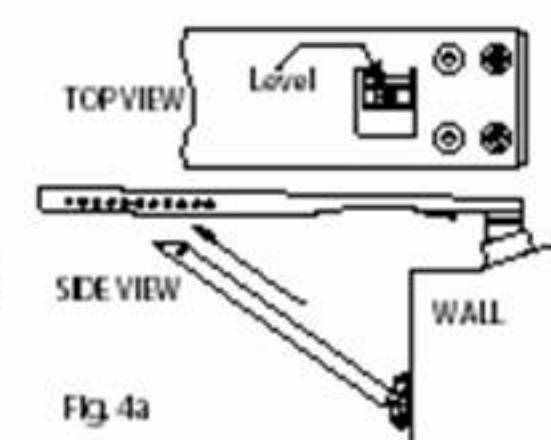
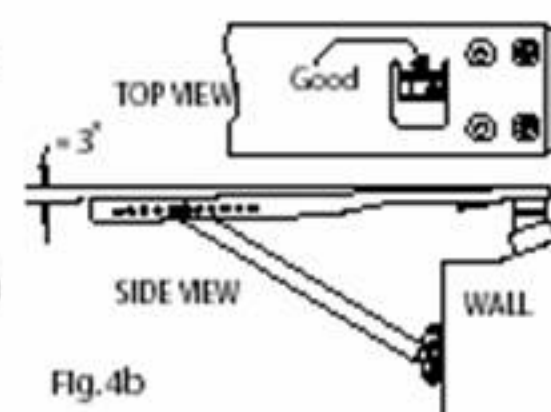
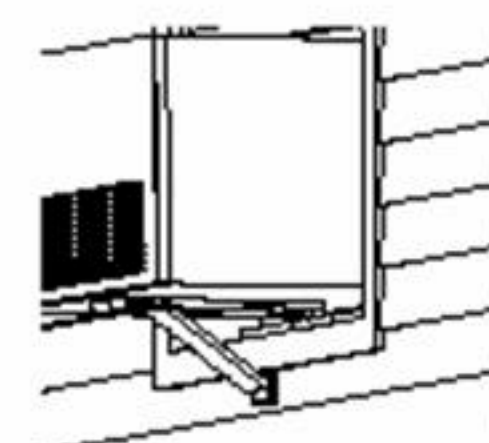

Fig. 4a
Fig. 4b
Fig. 4c
4) Setting Angle: place angled end of leg flat against underside of body; align leg holes with middle holes in side of body; position foot pad of leg flat against exterior surface; slide leg in or out along underside of body and exterior surface until bubble in level is centered Figure 4a; gradually slide leg toward outer end of body until bubble in level moves off center towards you - Figure 4b; align leg holes with closest holes in body and insert -20 x 3 bolt (#14) thru all holes, temporarily securing leg to body; check bubble and if necessary readjust leg one set of holes away from you; unit should now be self-supporting against outside surface with a slight downward tilt - Figure 4c.